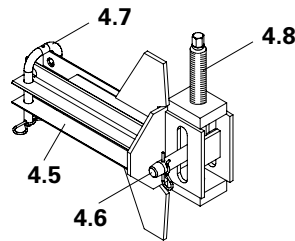

Fig. B2.13
2. Fix Connector TRIO-CB (4.5) to panel struts with hook clamps $\varnothing 25$ (4.7), see plans for arrangement. Centre distance = bracket spacing. By changing the mounting position of the spindle (4.8), the Connector TRIO-CB can be cantilevered to the left or right. (Fig. B2.13 + B2.13a)
3. Place Strongback CB (4) on the connectors. Bottom projecting length: see Planning or C1.